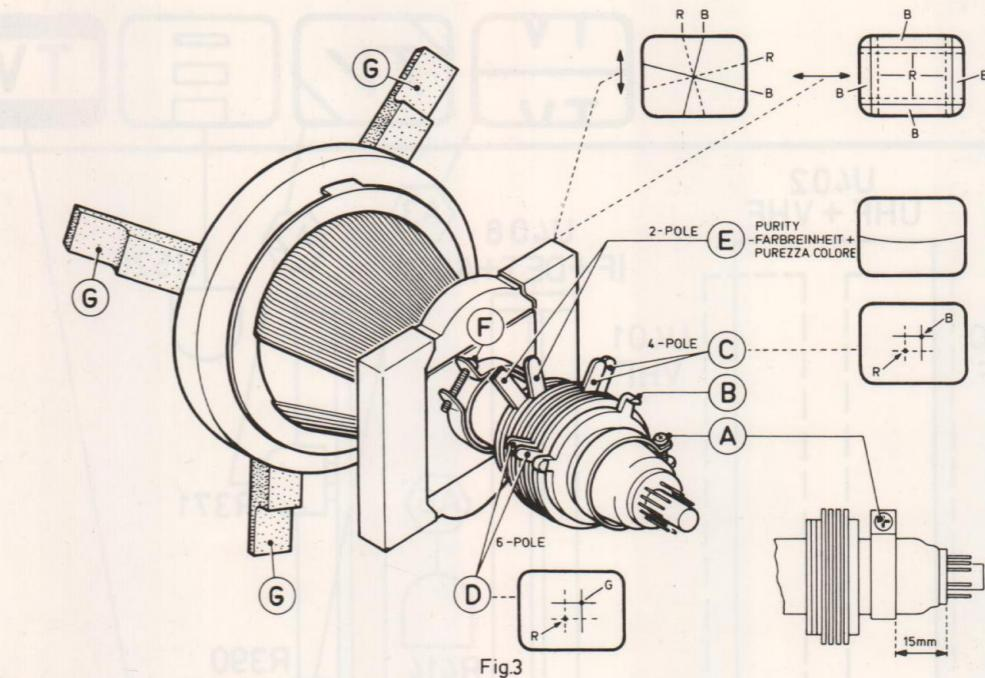

Fig.3
The colour purity and convergence adjustments described hereafter need only be carried out if a completely new adjustment is called for or if a new picture tube has been fitted. Otherwise, for instance after replacing the deflection unit, it will not be necessary to remove the rubber wedges (G in Fig. 3). Corrections by means of the multi-pole unit will then suffice.
I. Colour purity, see Fig. 3
II. Static convergence, see Fig. 3